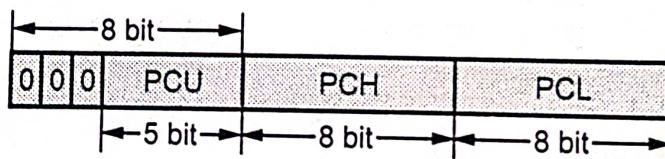

Fig. 2.6.1 Bit program counter of PIC18 family
- Fig. 2.6.1 shows the 21 bit program counter in PIC18 Family. The first location of program memory in PIC has the address of 00000H; however the last location can be different depending on the size of the ROM on the chip.